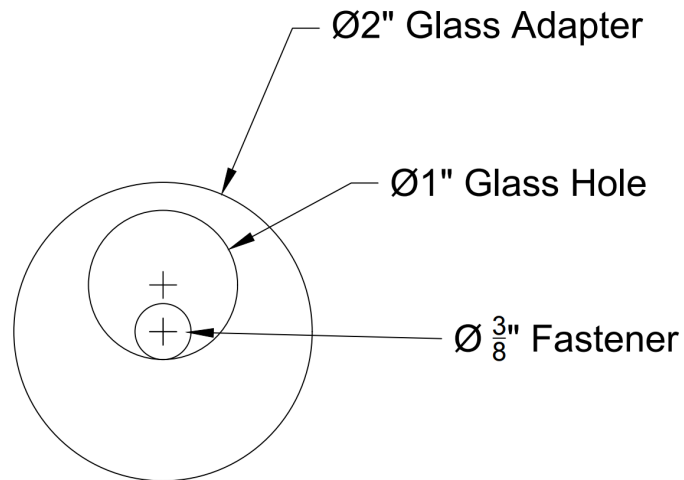

Fig 1: Glass Panel Adapter Hole Specifications 1"
3. Glass Panel Adapter Hole Size Specifications 1" [refer Fig 1]